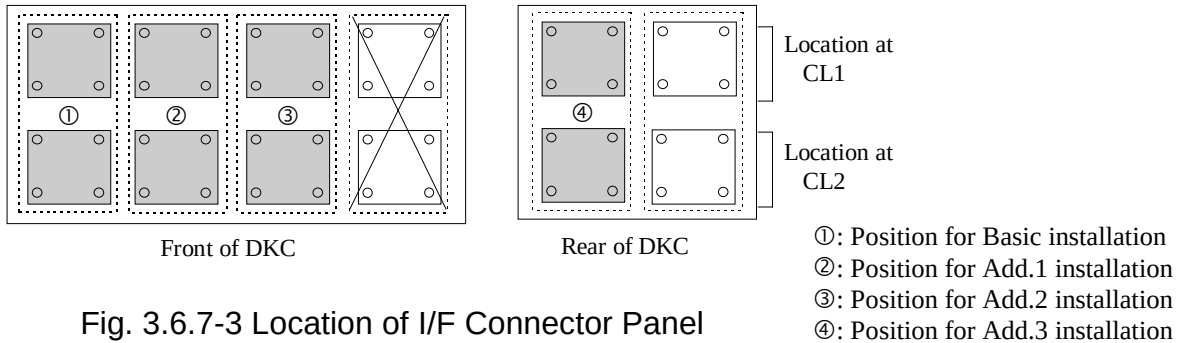

Fig. 3.6.7-3 Location of I/F Connector Panel
- Remove the dummy plate referring to Fig. 3.6.7-5.